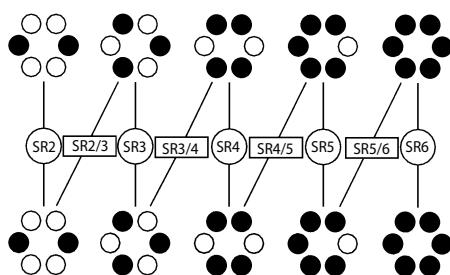
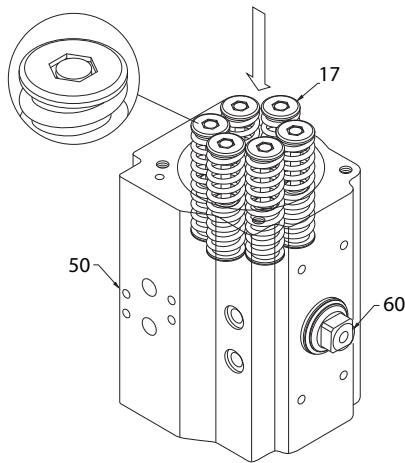

Figure 14
Figure 15
3. End Cap (30, 31) and Spring Cartridge (17) Assembly, (**Figures 14 through 16**):
- A. For spring-return actuators, insert the proper quantity of spring cartridges (17) according to the pattern shown in (**Figure 14**) (referring to the total number of springs). Insert spring cartridges (17) as shown in (**Figure 15**).